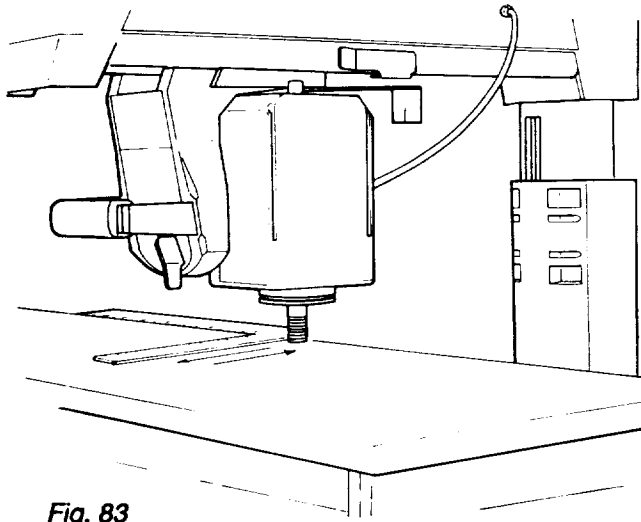

Fig. 83
7. Lay a framing square on the *front table* with the long edge along the back of the *table* and the short edge alongside the *motor arbor*. (Figure 83)
8. Move the framing square toward the *motor arbor* until the *arbor* and square touch each other. (Figure 83)
If the *motor arbor* moves away from the square or tries to “walk” on top of it, go to step 11. (Figure 83)